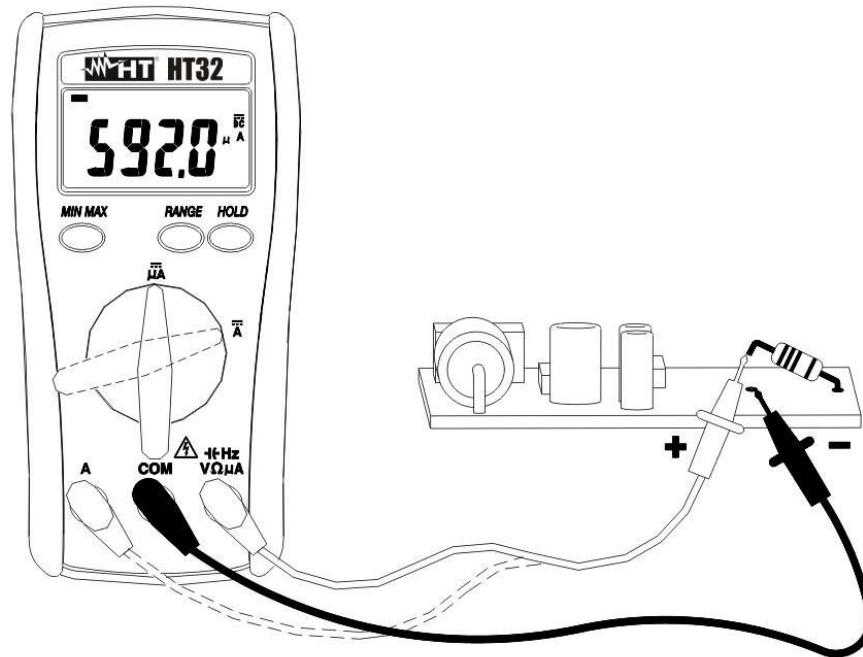

Fig. 4: DC Current measurement
3. Insert the red test lead into **A** jack and the black plug into **COM** jack (Fig. 4).
4. Connect red and black plugs in series with the circuit under test respecting the polarity and current flow indicated in Fig. 4.
9. The symbol "-" on the display means that current has opposite direction than shown in Fig. 4.
4. Connect red and black plugs in series with the circuit under test as indicated in Fig. 4.